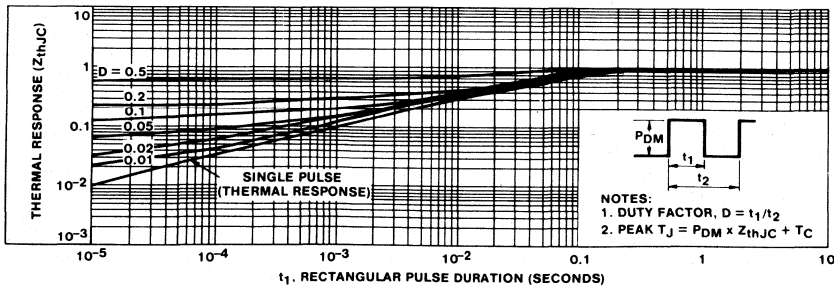

Fig. 5 - Maximum effective transient thermal impedance, junction-to-case vs. pulse duration.
3. Repetitive Rating: Pulse width limited by maximum junction temperature. See Transient Thermal Impedance Curve (Figure 5).